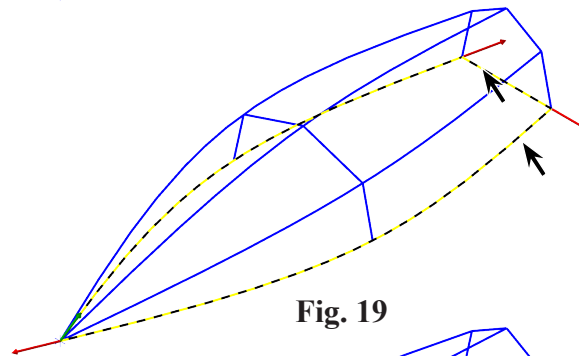

Fig. 19
Step 4. Walk Chain around the bottom rear and other bottom spline in direction of Chain arrows, **Fig. 19**.